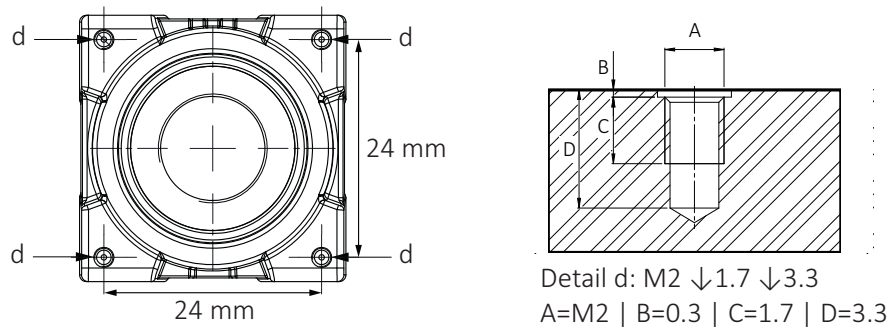

Figure 56: Camera front with mounting threads (c)
1. Mount the camera to the base using suitable M2 screws at 0.17 Nm maximum torque for a thread engagement (C) of 1.7 mm between screws and mounting threads, see Figure 56. For technical drawings, see G1 Closed Housing: Dimensions and mass on page 145.